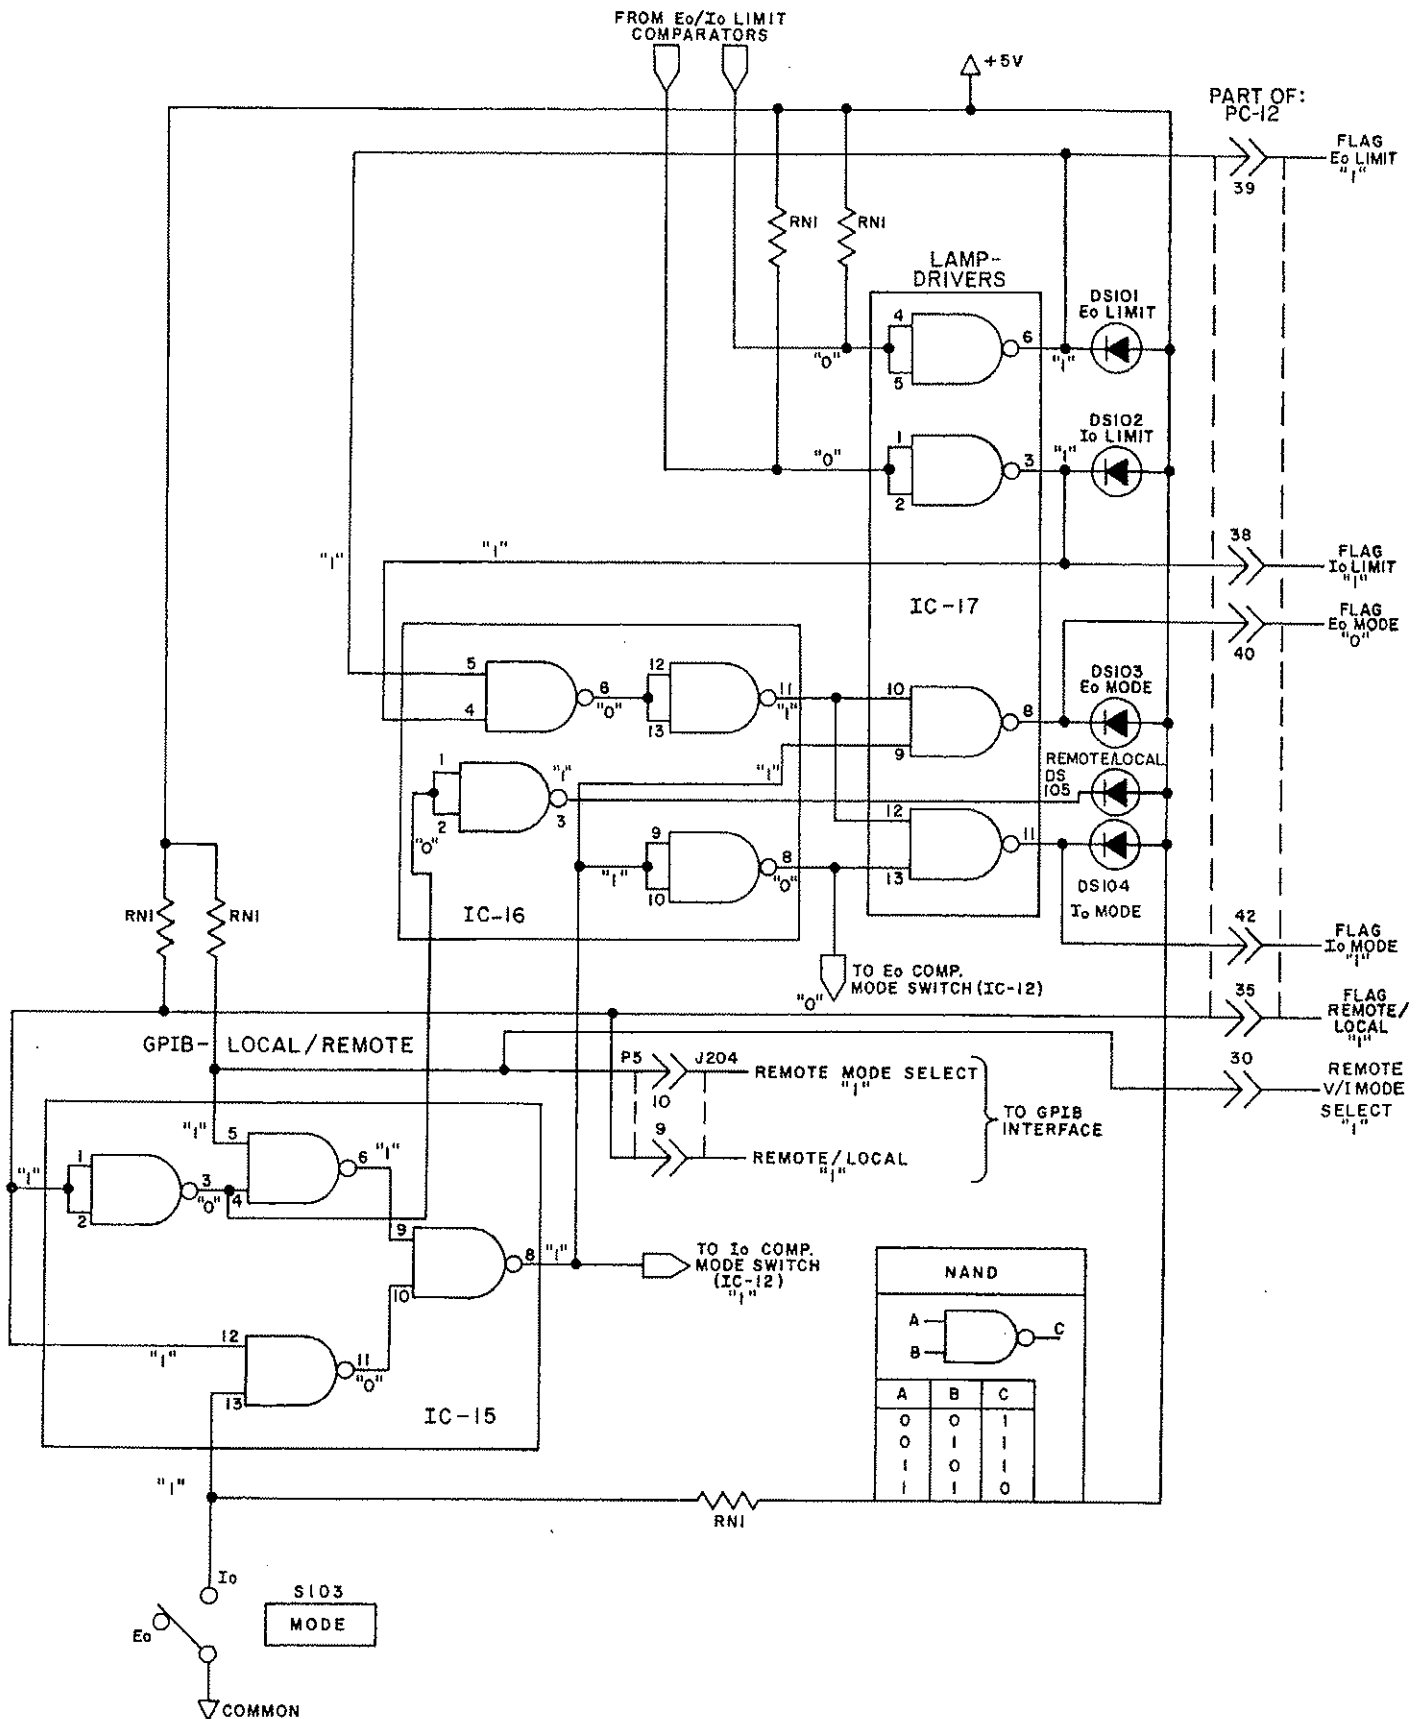

FIG. 4-4 INDICATOR LIGHT AND FLAG LOGIC.
- 4-30 THE INDICATOR AND FLAG LOGIC CIRCUIT (SEE FIG. 4-4).** Digital logic circuits (IC-15, IC-16, IC-17) are used in the BOP to drive the LED front panel lamps which indicate the prevailing operating mode:
- 4-31** The logic status indicated in FIG. 4-4 are valid for the BOP operating in the voltage mode (E_o MODE) and not driven by the GPIB INTERFACE. If the GPIB interface is connected, control of the BOP output may be assumed by the external controller, once the "REMOTE" command is applied via J204/P5 Pin 6. At this time, the REMOTE/LOCAL FLAG (PC-12 pin 35) will go to "0", the REMOTE front panel lamp goes on and the front panel MODE SWITCH (S103) is no longer functional. All other front panel LED indicators will function as in the local control mode.